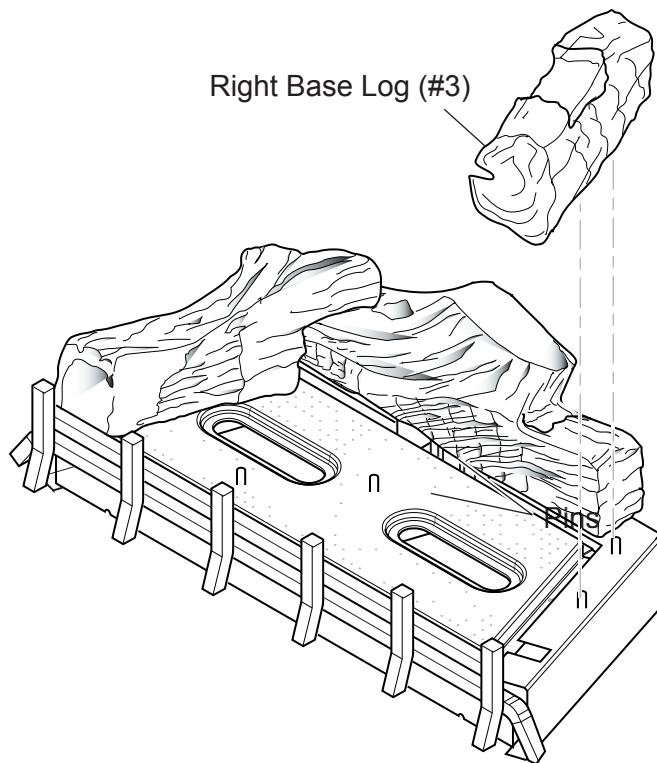

Figure 20 - Installing Right Log #3
5. Line up holes in bottom of right base log (#3) on two (2) pins to the right of rear log (#1). See *Figure 20*.